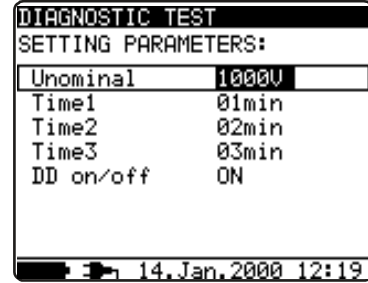

Fig. 12. Set-up menu in Diagnostic Test
- Press the **SELECT** key, Set-up menu appears on display, see the figure 12.